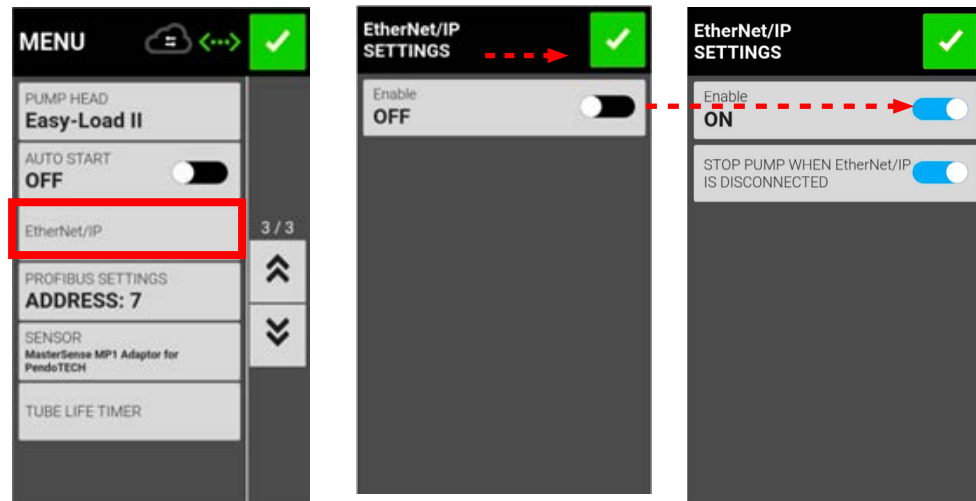

Figure 3
- Tap “EtherNet/IP” on the “Menu” touchscreen (see Figure 3 below).